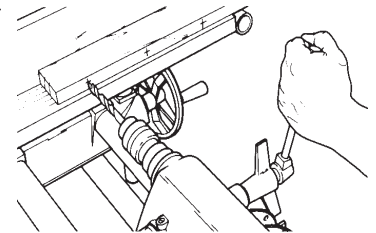

Figure C-35
5. Turn on the Mark V, set the speed, and feed the bit into the stock, see figure C-35. When boring deep holes, it will be necessary to retract the bit now and then to clear chips from the hole. When you feel the depth control stop the quill, retract the bit. Set the speed dial to "Slow" and turn off the machine. Let it come to a stop, then remove the stock.